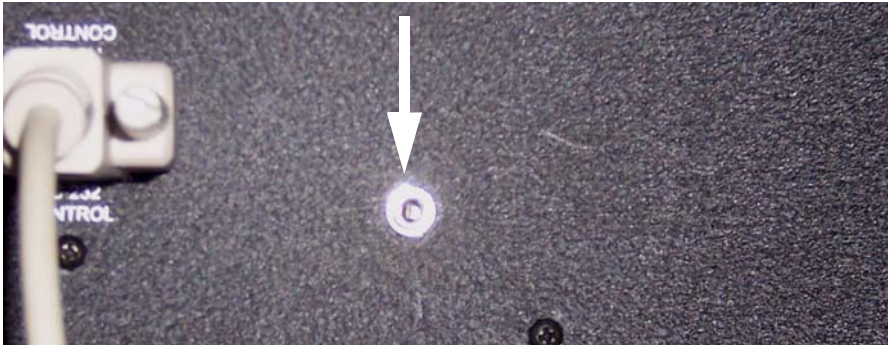

Figure A-3. VX-2ix Secondary RS-232 Port
3. Connect the 3.5-mm phono plug to the secondary RS-232 port on the rear of the projector. This port is not labeled, but is to the right of and slightly below the primary RS-232 port; see Figure A-3.